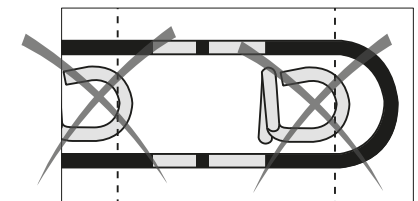

Fig.8
- 2- Remove the shim ⑪ (fig. 8) and ensure that the cam ⑨ remains centered relative to the actuator ⑩ using the markers ⑫ (fig. 4A)
3. Arm the device by pressing the lock ⑬, you will hear a "click" sound (fig. 8).